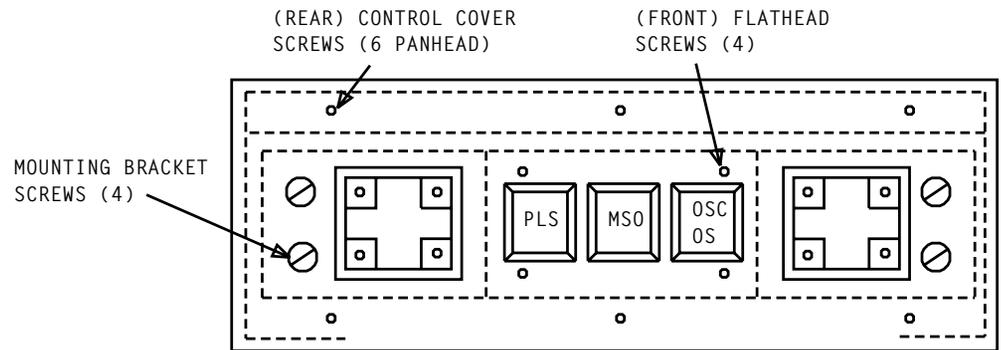

Figure 1 - Network Clock Control
- [4] At rear of frame, remove six panhead screws holding rear of network clock chain control cover [Figure 1]